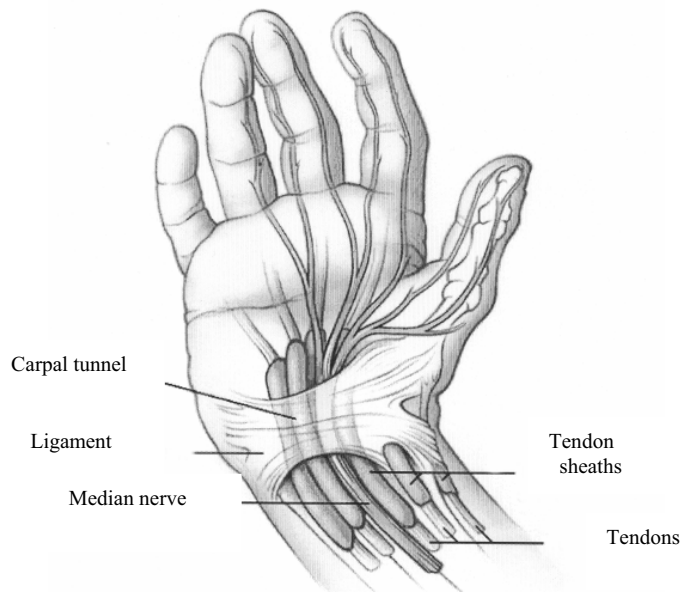

Figure 3
- **Muscles/Tendons:** Nine tendons also run through the tunnel connecting the muscles of the forearm to the bones of the wrist and hand (Figure 3). These tendons bend your fingers and thumb.